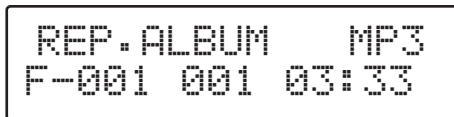

Fig 19.
2. Press the REPEAT button again to repeat all tracks in the current folder. (Fig 19)